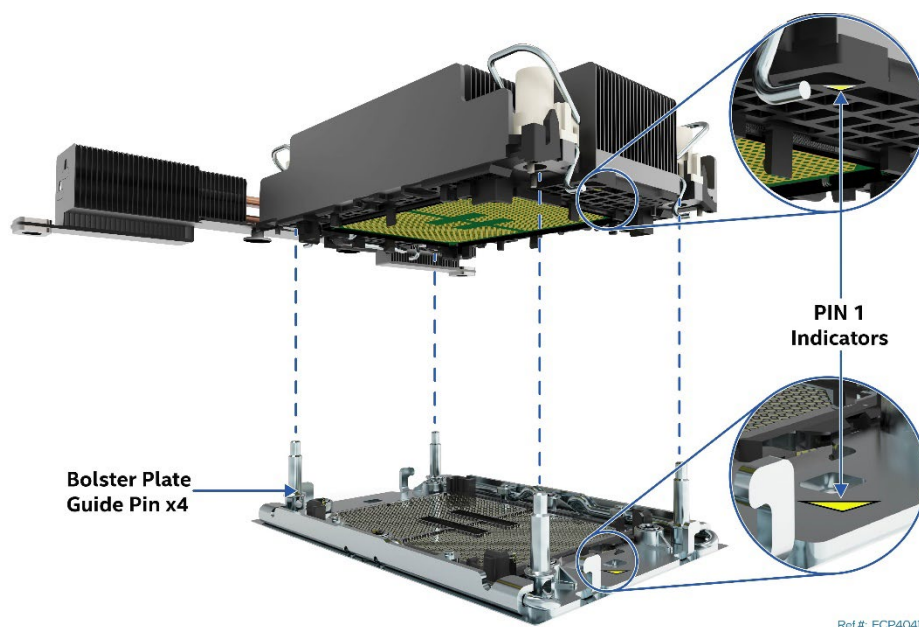

Figure 95. PHM Alignment with Socket Assembly
- Align the Pin 1 indicators of the processor carrier clip and processor with the Pin 1 indicator on the bolster plate located around the processor socket (See Figure 95).